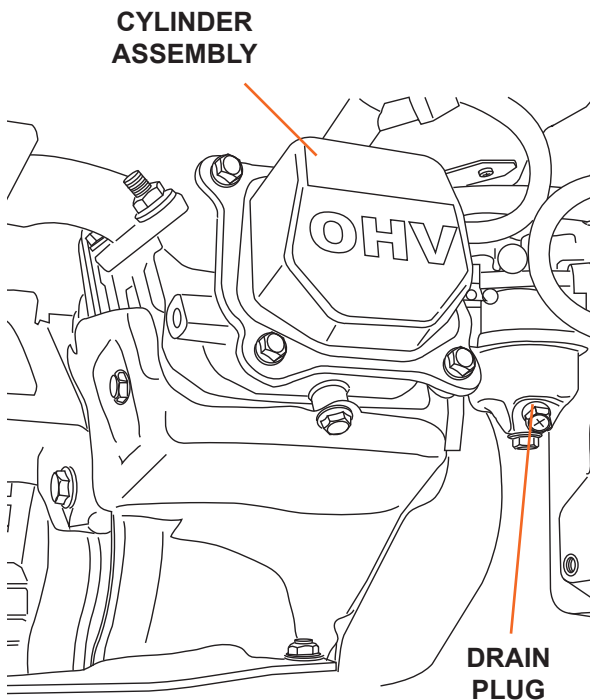

Figure 31
4. Drain the carburetor (see Figure 31).